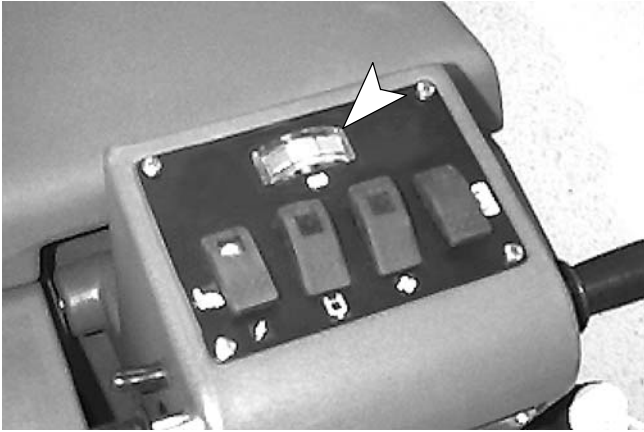

FIG. 3
- After batteries are properly installed, turn on the main switch and check battery meter charge level to ensure batteries are fully charged. Charge if necessary, See Battery Charging (Figure 3).